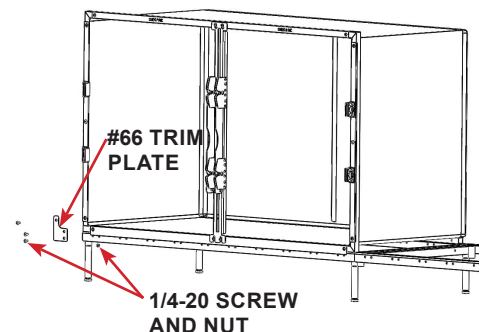

FIGURE 2.20 - Trim Plate #66
**STEP 6:** Install, but do NOT fully tighten screws, the bottom-left trim plate (#66) using the screws removed in the previous step. The bottom hole requires a 1/4-20 screw and nut, which secures the cage to the platform. See FIGURE 2.20